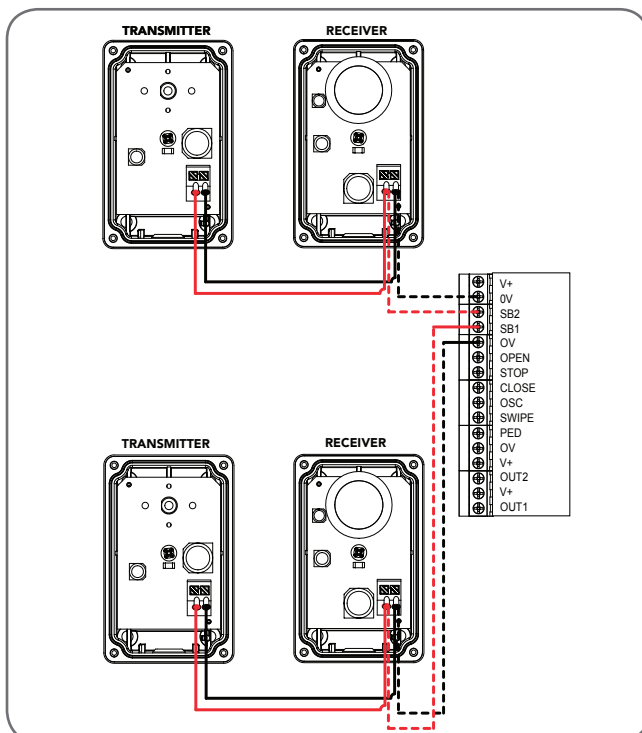

Fig 6.4
- For dual Safety Beams (connect one wire to SB1 input and the second wire to 0V, next to the SB1 terminal for the first safety beam, then connect one wire to SB2 input and the second wire to 0V, next to the SB2 terminal (Fig. 6.4))